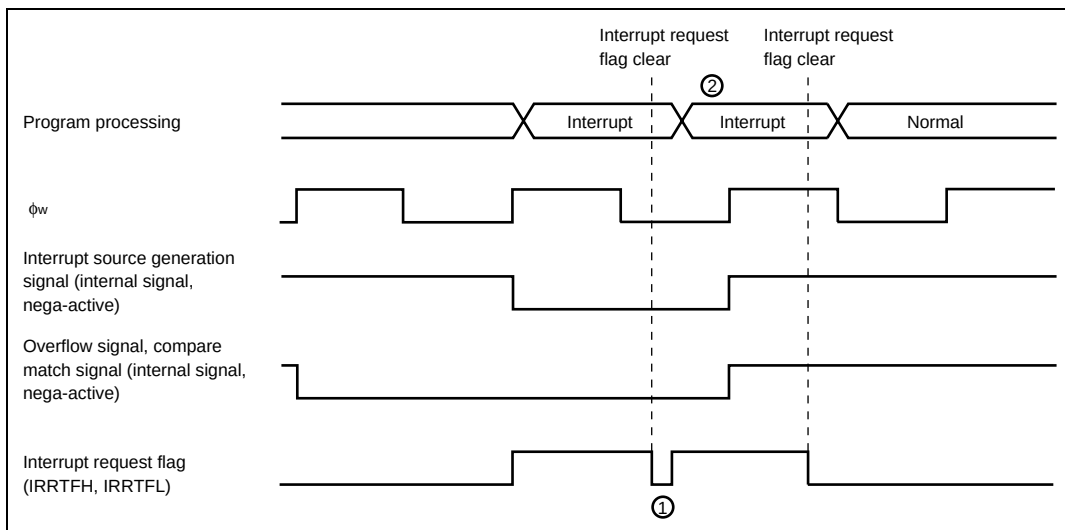

Figure 9.6 Clear Interrupt Request Flag when Interrupt Source Generation Signal is Valid
Clear Timer FH, Timer FL Interrupt Request Flags (IRRTFH, IRRFL), Timer Overflow Flags H, L (OVFH, OVFL), and Compare Match Flags H, L (CMFH, CMFL): When $\phi_w/4$ is selected as the internal clock, “Interrupt source generation signal” will be operated with ϕ_w and the signal will be outputted with ϕ_w width. And, “Overflow signal” and “Compare match signal” are controlled with 2 cycles of ϕ_w signals. Those signals are outputted with 2 cycles width of ϕ_w (figure 9.6)
In active (high-speed, medium-speed) mode, even if you cleared interrupt request flag during the term of validity of “Interrupt source generation signal”, same interrupt request flag is set. (1 in figure 9.6) And, the timer overflow flag and compare match flag cannot be cleared during the term of validity of “Overflow signal” and “Compare match signal”.
For interrupt request flag is set right after interrupt request is cleared, interrupt process to one time timer FH, timer FL interrupt might be repeated. (2 in figure 9.6) Therefore, to definitely clear interrupt request flag in active (high-speed, medium-speed) mode, clear should be processed after the time that calculated with below (1) formula. And, to definitely clear timer overflow flag and compare match flag, clear should be processed after read timer control status register F (TCSRf) after the time that calculated with below (1) formula.